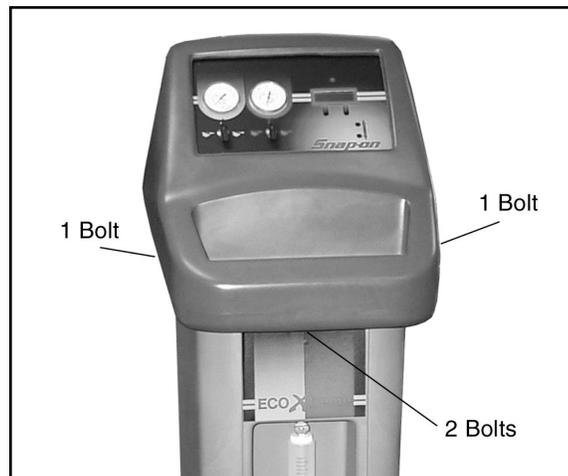

Figure 3-2: Top Cover Bolt Locations
4. Remove the four (4) bolts holding the plastic top cover, refer to *fig 3-2* for bolt locations.